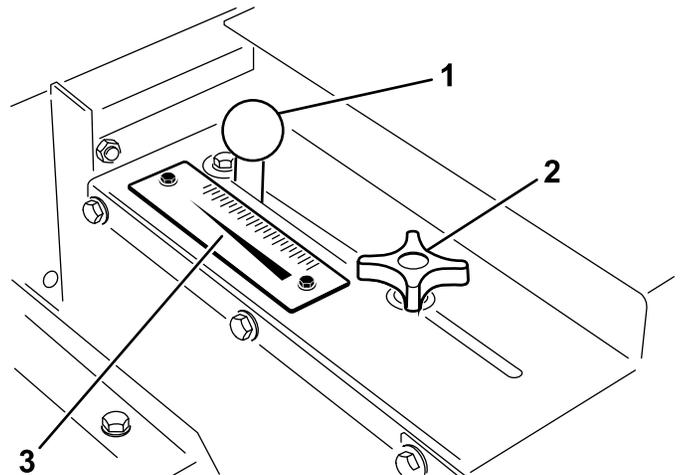

Figure 20
1. Loosen the locking knob (Figure 20) enough to allow it to slide freely in the slot.
2. Set the gate knob (Figure 20) into the desired position and tighten the locking knob to secure the adjustment.
Use the rate scale (Figure 20) to determine the desired flow rate. Refer to Sand Application Rate (page 18).